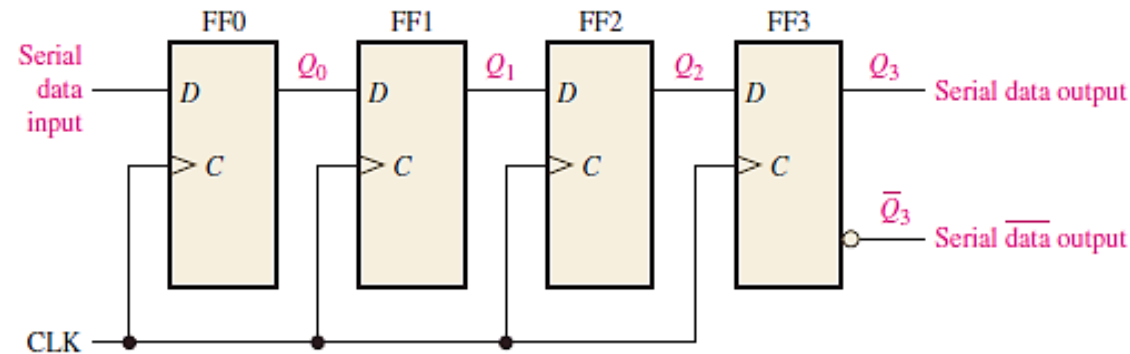

FIGURE 3 Serial in/serial out shift register.
- Figure 3 shows a 4-bit device implemented with D flip-flops. With four stages, this register can store up to four bits of data.
- Table 1 shows the entry of the four bits 1010 into the register in Figure 3, beginning with the least significant bit. The register is initially clear. The 0 is put onto the data input line, making $D = 0$ for FF0. When the first clock pulse is applied, FF0 is reset, thus storing the 0.
Shifting a 4-bit code into the shift register in Figure 3. Data bits are indicated by a beige screen.